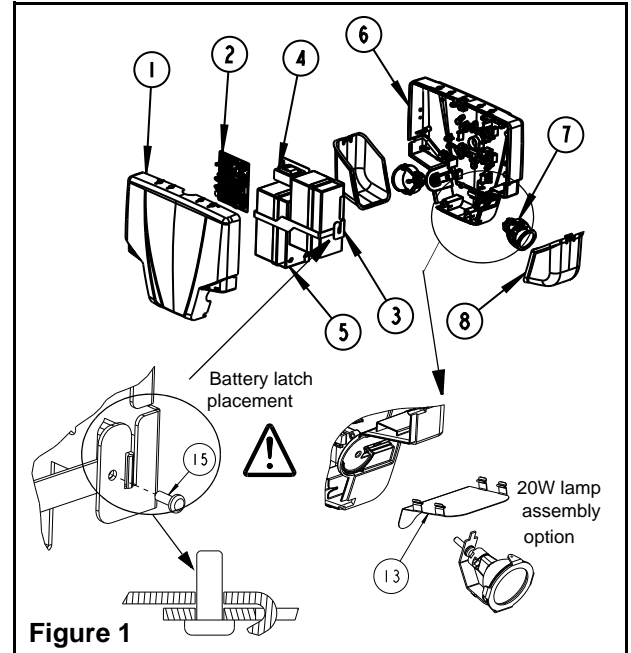
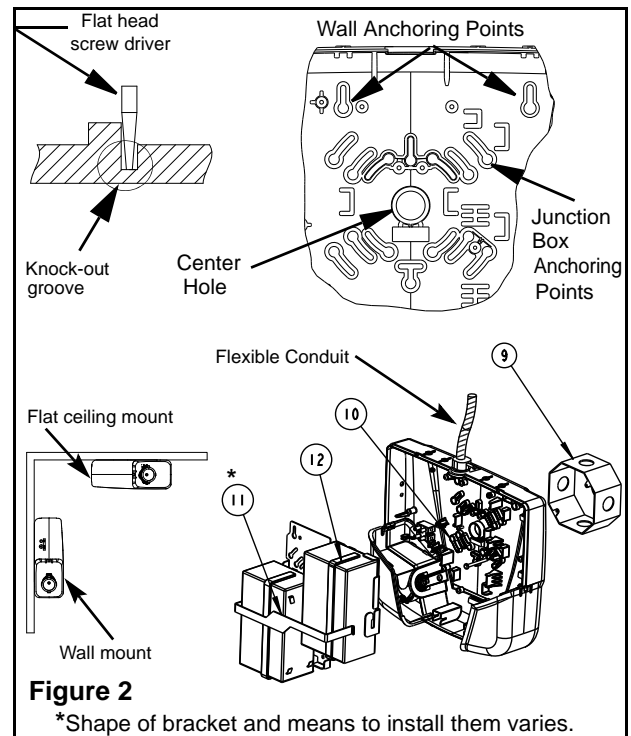

Figure 1
Figure 2
**CAUTION:** For models including battery support plate (3) it is critical to ensure that the hooked end of the bracket is properly latched to the battery support plate (see Fig. 1). Failure to do so can cause a serious injury.
3. Lay unit on a flat surface face up. Remove lenses (8) and lay heat shields (13) (for units with 20W lamps) (See Fig. 1) and leave lamps detached from the housing.
4. Remove the front cover (1).
5. Remove the battery support bracket (11) (See Fig.2) and battery(ies) and note how they are connected to reproduce this upon re-assembly.
1. Knock-out the proper hole pattern in the housing (6) to mount to a standard junction box (9) (See Fig. 2) according to the required orientation. To do so, it is recommended to place the unit on a flat solid surface with the back of the housing facing the surface. Prop up the unit on a roll of tape or other solid means to facilitate the removal of the knock-outs. Place the tip of a flat head screwdriver in the groove and knock out each detail with the help of a hammer (See Fig. 2).
2. Remove bubble wrap and install lamp assembly (7) (See Fig. 1).
3. Install means to anchor unit in line with "Wall anchoring points" (see Fig. 2). This is recommended for a more secure installation.
Follow same steps as outlined for Wall Mounting. No canopy is required. (See Fig. 2.)
Remove knock-out for the conduit entry located on the top of the housing (See Fig. 2). Secure unit to the wall following "Wall mounting" or "Ceiling mounting" instructions and make appropriate connections. Isolate wires from building to avoid contact with the transformer.